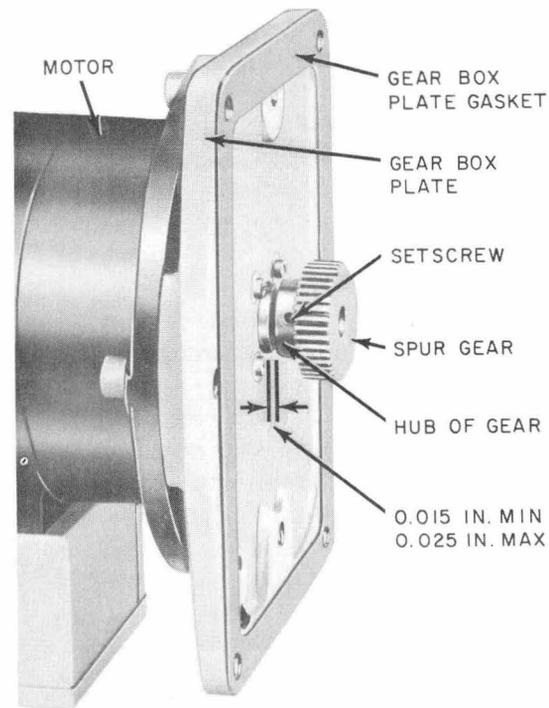

Fig. 27—Clearance Between Hub of Gear and Oil Seal
(3) Mount the can on the new motor, tightening the screws securely. **If there are four conductors from the new motor, proceed as follows.** Connect in pairs one black and one green lead. To these pairs, connect a source of 60 Hz, 115 volts. Observe the direction of the shaft. If the leads are paired correctly, the shaft will rotate counterclockwise viewing the exposed end of the shaft. If the shaft rotates in a clockwise direction, disconnect the source of power and interchange the black leads. Insert the motor leads into the can and solder together the paired leads. Insert the toggle switch through the plughole and mount the plug in this hole, tightening the screw securely. Splice the paired motor leads to the toggle switch and plug leads, respectively, in the approved manner. **If there are two conductors from the motor,** it is unnecessary to check the direction of rotation of the motor. Insert the motor leads in the can and mount the plug as described above. Splice the motor leads to the toggle switch and plug leads, respectively. Remount the toggle switch in the can and the cover on the can. On the L7 reader only, fasten the ground wire under the head of the nearest screw on the end of the motor housing. Take care to remove sufficient paint from the housing to provide a good ground.
(4) Mount the motor on the gear box plate. Tighten all screws securely. On motors having gear plates with oil seals, check that the motor shaft turns freely. If it does not, loosen the oil seal mounting screws with the screwdriver and shift the oil seal as required. Tighten the screws securely. Remount the gear so that there is a clearance of minimum 0.015 inch, maximum 0.025 inch between the hub of the gear and the oil seal as shown in Fig. 27. Use the KS-6909 gauge to check the clearance.
(5) If necessary, replace the gear box plate gasket as follows. Remove any sealing compound which may be present on the associated surfaces of the plate or gear box using the R-1060 putty knife. Clean the surface of the plate which will be in contact with the gasket with a KS-2423 cloth moistened with KS-19578 L1 trichoroethane. Put the new gasket in place and remount the motor and gear box plate on the gear box.
**3.13 Motor Gear:** To replace the gear attached to the motor shaft, remove the motor assembly as covered in 3.09. Loosen the gear setscrews using the proper size Allen wrench. Mount the new gear on the motor shaft. On motors having gear plates with oil seals, position the gear so that there is clearance of minimum 0.015 inch, maximum 0.025 inch between the hub of the gear and the oil seal, as shown in Fig. 27, using the KS-6909 gauge to check the clearance. On motors having gear plates without oil seals, position the gear so that the end of the hub is approximately even with the machined mounting surface of the plate. To do this, place the R-8550 scale across the machined surface of the plate and position the hub approximately